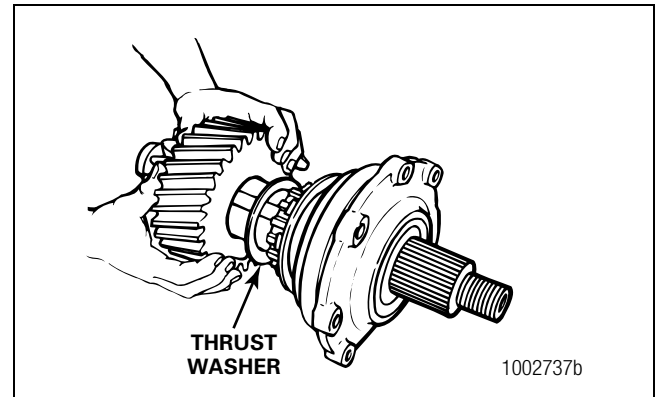

Figure 3.33
5. Remove the helical drive gear from the input shaft. Remove the thrust washer from the gear. Figure 3.33.